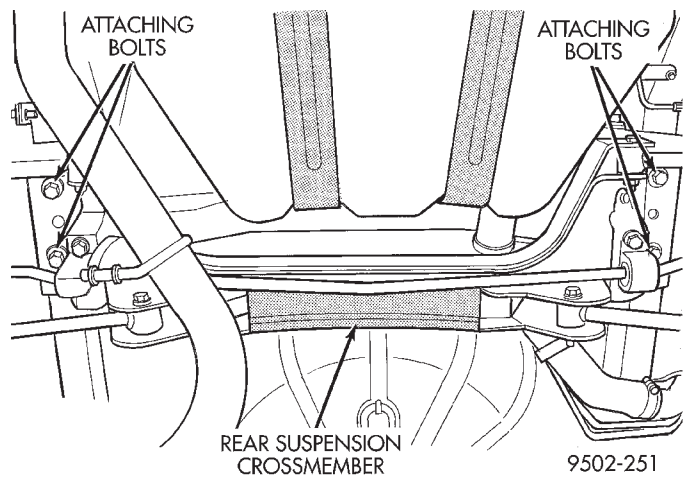

Fig. 27 Crossmember Attachment To Frame Rails
(9) Remove the 4 bolts (Fig. 27) attaching rear suspension crossmember to rear frame rails.
(2) Using transmission jack, raise rear suspension crossmember up to the rear frame rails and loosely install the 4 attaching bolts (Fig. 27).